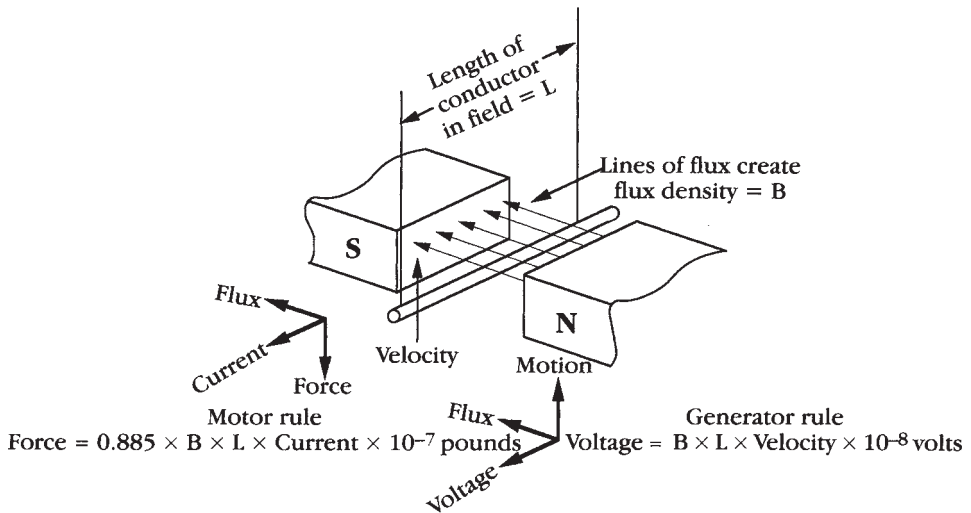
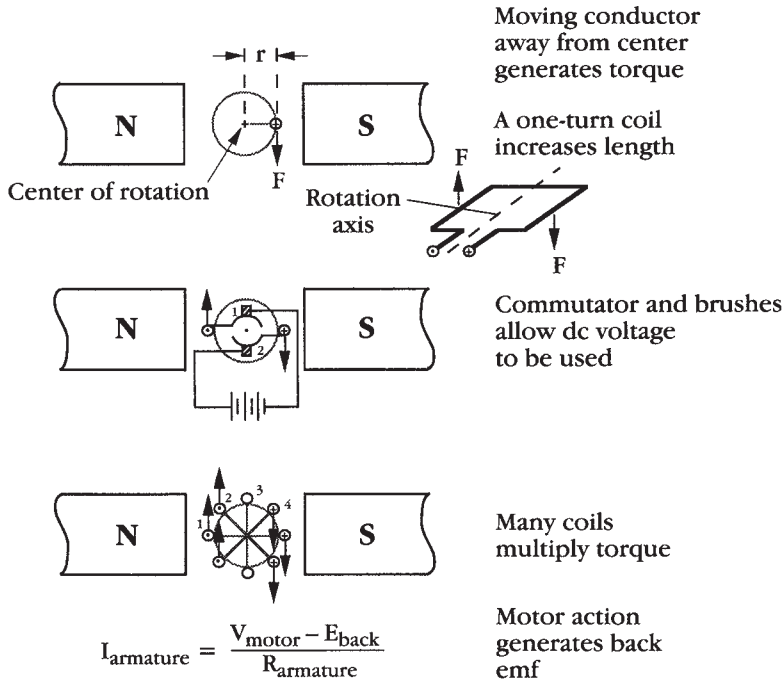

FIGURE 6-1 DC motor basics—the motor and generator rules.
FIGURE 6-2 DC motor s basics—obtaining torque from moving conductors.
If you had a horseshoe-shaped magnet with the ends close together and you moved a wire through its pole area at a right angle to the flux as shown in Figure 6-1, the equation describing it would be
This relationship holds true whether the field is stationary and the wire is moving or vice versa. The faster you cut the lines of flux, the greater the voltage, but you must do so at right angles. (At any angle ϕ other than the 90-degree right angle, that equation becomes $V = Blv \times \sin \phi \times 10^{-8}$.) What you have just demonstrated is Faraday's Law or the generator rule: Motion of a conductor at a right angle through a magnetic field induces a voltage across the conductor. If the circuit is closed, the induced voltage will cause a current to flow. A handy way to remember the relationships is the right-hand rule: the thumb of your right hand points upward in the direction of the motion of the conductor, your index finger extends at right angles to it in the direction of the flux (from north to south pole), and your third finger extends in a direction at right angles to the other two, indicating the polarity of the induced voltage or the direction in which the current will flow as shown in Figure 6-1.
What we have just demonstrated here is Ampere's Law or the motor rule: Current flowing through a conductor at a right angle to a magnetic field produces a force upon the conductor. The right-hand rule is again a handy way to remember the relationships, but this time the thumb of your right hand points toward you in the direction of the current through the conductor, your extended index finger at right angles to it points in the direction of the flux (from north to south pole), and your extended third finger points downwards in a direction at right angles to the other two, indicating the direction of the generated force as shown in Figure 6-1. Now you're ready to talk seriously about motors.
If you could support the conductor shown in Figure 6-1 so that it could rotate in the magnetic field, you would create the condition shown in the upper part of Figure 6-2.
First you need to make it more “force-full.” Since the force varies with the length of the conductor, if you make a coil of wire, as shown in the upper right of Figure 6-2, twice as much length is cutting the lines of flux. The force generated on the right-hand wire is downward and the force generated on the left-hand wire is upward; they would assist one another in producing rotation and result in twice the torque.
To further assist rotation, you add the commutator and brushes, shown in the middle of Figure 6-2. This arrangement allows you to power your motor from a constant supply of direct current (DC) voltage. Switching the polarity of the coils when they reach the 12 o’clock or 6 o’clock position (minimum flux point) guarantees that current will always flow in through brush number 2 and out through brush number 1, thus always producing upward force on the left-hand conductor and downward force on the right-hand conductor, and creating a constant rotation.
To further increase the motor’s torque abilities, you add additional coils as shown at the bottom of Figure 6-2. In reality, each coil can have many windings, and you can
The armature is the main current-carrying part of a motor that normally rotates (brushless motors tend to blur this distinction) and produces torque via the action of current flow in its coils. It also holds the coils in place, and provides a low reluctance path to the flux. (Reluctance is defined as $(H \times l)/\mu$ and measured in ampere-turns per lines of flux.) The armature usually consists of a shaft surrounded by laminated sheet steel pieces called the *armature core*. The laminations reduce eddy current losses; steel is replaced by more efficient metals in newer designs. There are grooves or slots parallel to the shaft around the outside of the core; the sides of the coils are placed into these slots. The coils (each with many turns of wire) are placed so that one side is under the north pole and the other is under the south pole; adjacent coils are placed in adjacent slots, as shown at the bottom of Figure 6-2. The end of one coil is connected to the beginning of the next coil so that the total force then becomes the sum of the forces generated on each coil.
In the real world, electromagnets (recall your toolbox nail with a few turns of insulated copper wire wrapped around it) are customarily used instead of the permanent magnets you saw in Figure 6-1 and Figure 6-2. (Permanent magnet motors are, in fact, used, and you'll be formally introduced to them and their advantages later in this section.) In a real motor the lines of flux are produced by an electromagnet created by winding turns of wire around its poles or pole pieces. A pole is normally built up of laminated sheet steel pieces, which reduce eddy current losses; as with armatures, steel has been replaced by more efficient metals in the newer models. The pole pieces are usually curved where they surround the armature to produce a more uniform magnetic field. The turns of copper wire around the poles are called the field windings.